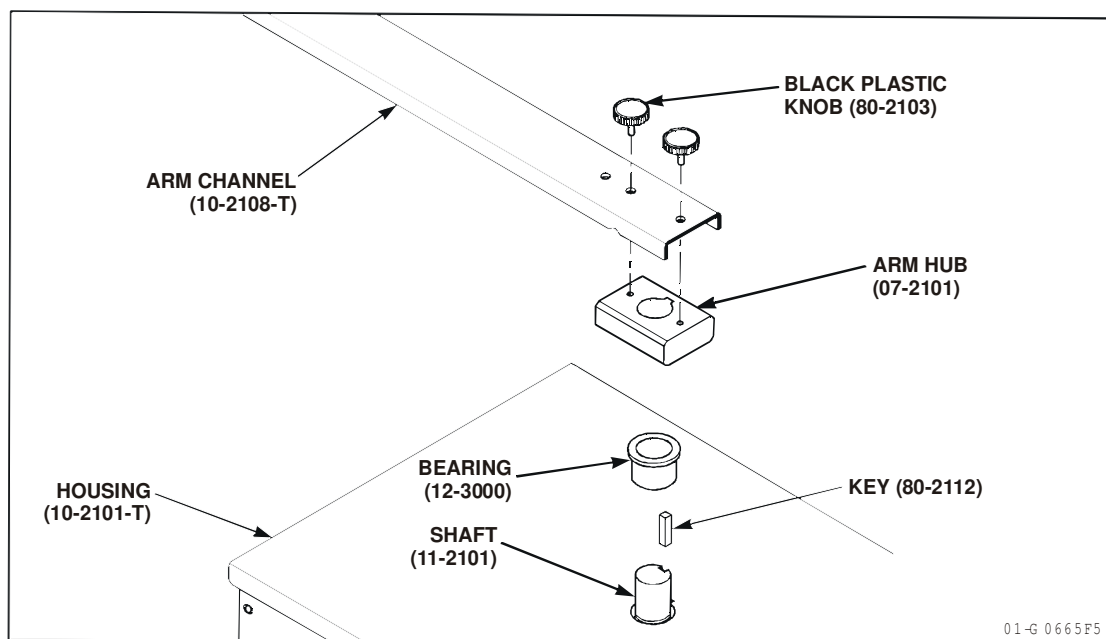

Figure 10
- 4 **Model SW 470:** Set the control arm stops on the operator in the positions appropriate for the installation. Then install the control arm and hub assembly to the operator output shaft. Attach control arm extension to arm hub with  $\frac{1}{4}$  -20 black plastic knobs provided as shown in Figure 10. Place hub onto shaft with key and secure using set screw. Be sure rubber seal is on end of hub to keep water out of bearing.